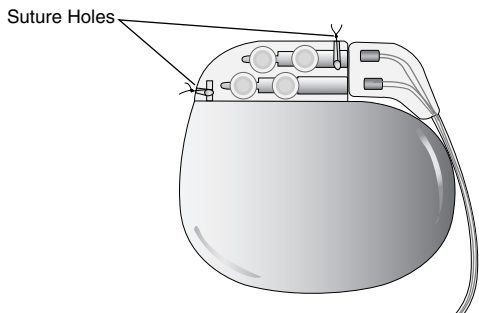

Figure 22. Suture hole locations on neurostimulator connector block.
- Secure the neurostimulator in the subcutaneous pocket, using the suture holes in the connector block to secure it to the muscle fascia. (Figure 22).